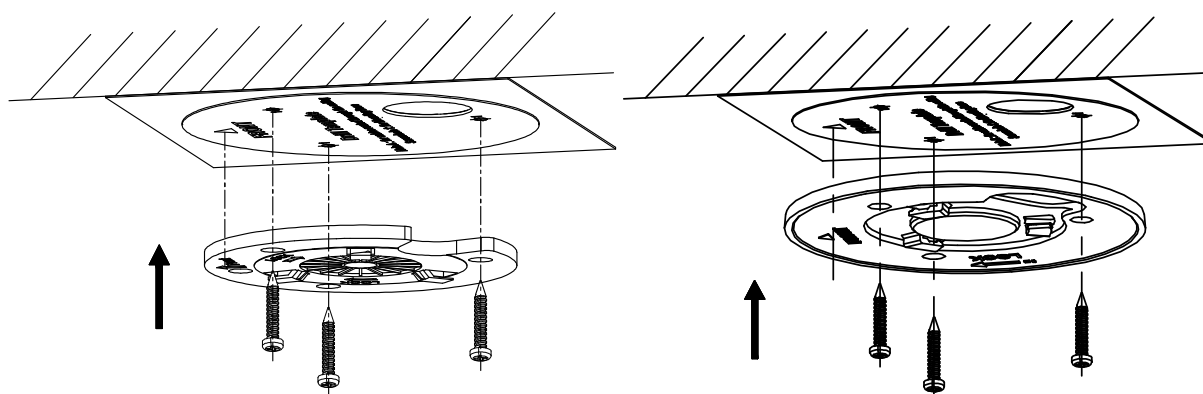

Figure 2-16 Mount the Base Plate – 2.5-inch PTZ Camera /2.5-inch IR PTZ Camera
4. Attach the base plate to the ceiling and secure it with the supplied 3 self-tapping screws by aligning with 3 screw holes in the ceiling, and the front arrows on the drill template and base plate should be aligned together as well, as shown in Figure 2-16.